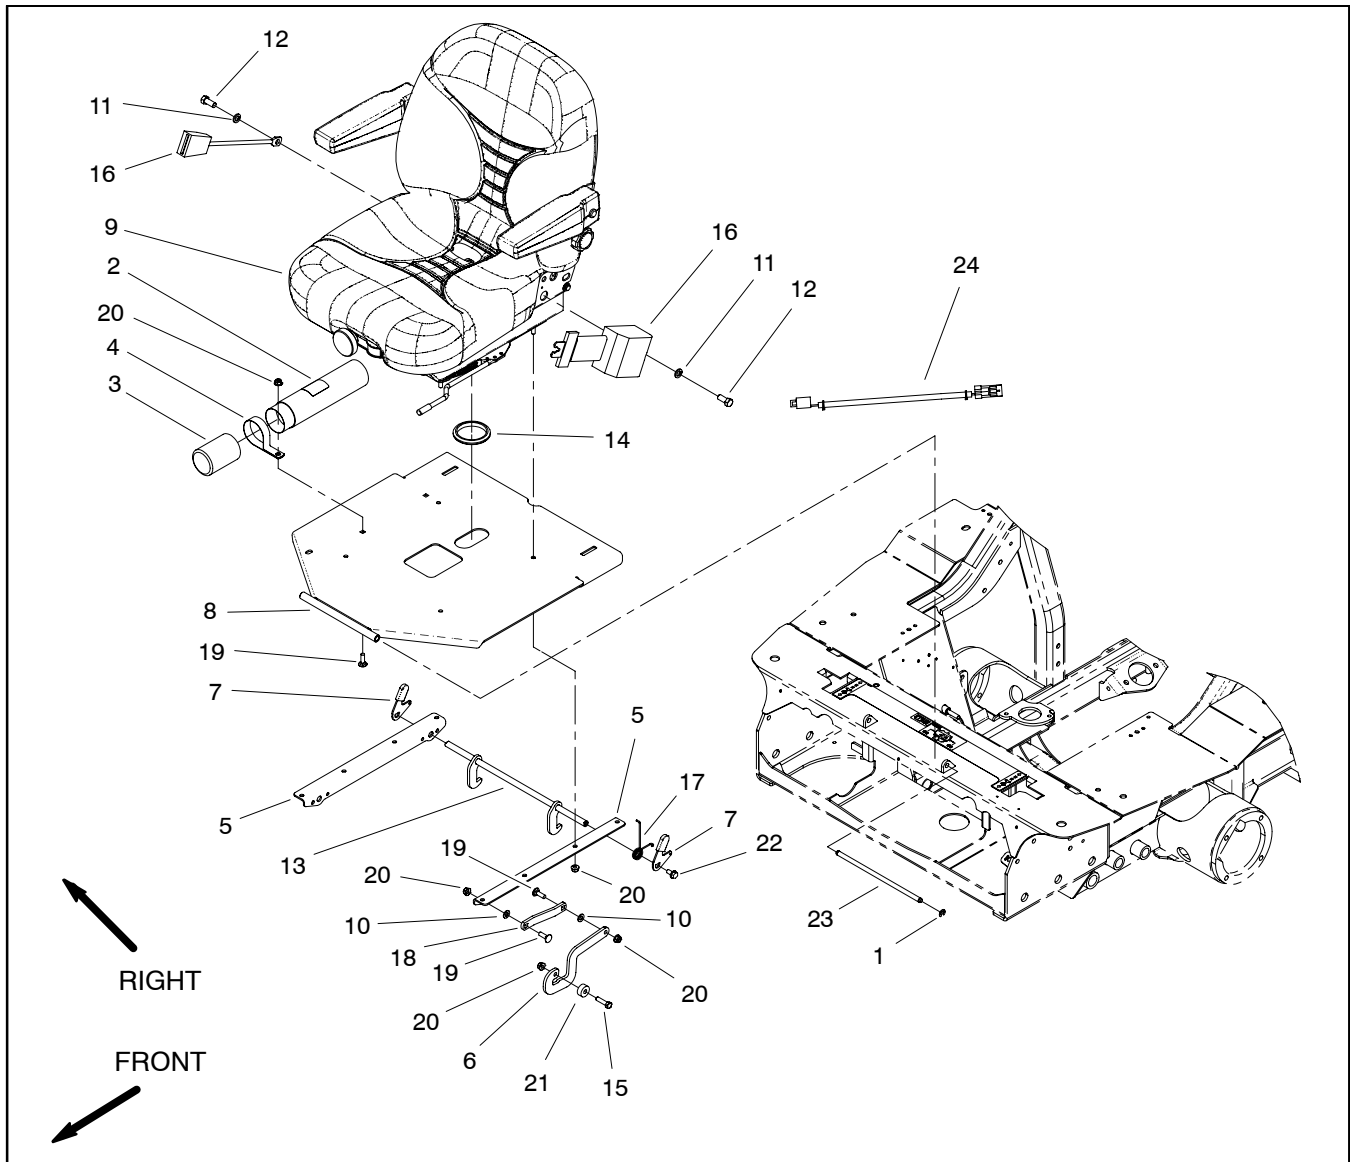
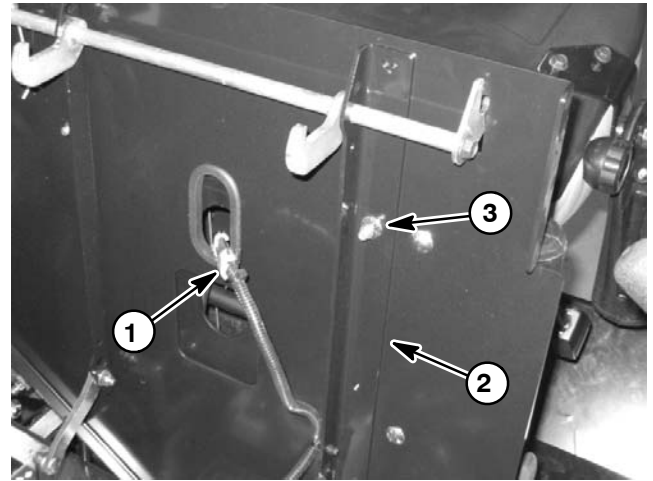

Figure 27
Figure 28
### Removal (Fig. 27)
3. Disconnect machine wire harness electrical connector from the seat switch harness connector (Fig. 28).
5. Remove four (4) flange nuts that secure seat and latch angles to seat plate. Remove seat from machine.
6. Remove seat parts as necessary using Figure 27 as a guide.
### Installation (Fig. 27)
1. Install all removed seat parts using Figure 27 as a guide.
2. Position seat and latch angles to seat plate. Secure assembly with four (4) flange nuts.
3. Connect wire harness electrical connector to the seat switch harness (Fig. 28).